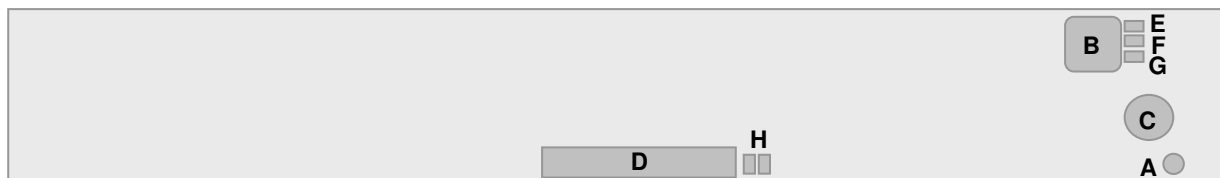

Figure 1: Connectors (back view)
The MCP is provided with a universal supply adapter that accepts a voltage of 100 to 240Vac (50/60Hz). Supply adapter and USB cable are provided with the MCP, you don't need further hardware to operate. Sockets for connections are on the back of panel (Figure 1). Beyond to the supply and USB connectors the MCP737PRO have some further sockets, they are provided to allow system expandability. A DIN 5 pole socket "C" is used to link auxiliary CPflight modules (MIP737 board, Radios etc). Close to USB socket, there is a small 6-pole connector ready for external backlight control, external A/T disengage pushbutton and external TO/GA pushbutton. The 6-pole connector is intended as 3 x 2 pole each pair of pole support one of the functions as indicated in the below connector list items E, F and G.
- Connect the USB cable to the MCP737PRO USB connector (Figure 1 “B”) and the other side to a free USB port of your computer...
- Connect the DC power adapter to the MCP737PRO (Figure 1 “A”) and plug the adapter to a main supply socket. The computer has to be switched on when you connect the MCP for the first time...
MCP737PRO comes provided with wide expansion capability through the DIN 5 pole auxiliary socket (Figure1 “C”). This allows you to connect and interface CPflight plug&play expansion modules (like radio panels and MIP737 expansion board). For further information about modules and expansion boards refer to CPflight website.
WARNING! The use of auxiliary connector (Figure1 D, E, F, G) is intended for expertise users. To use these auxiliary functions it is necessary to weld wires, to connect external switches/pushbuttons etc. Do not connect anything coming from any external power source or different by the following indications; warranty does not cover damages due to incorrect wiring of any external device.
EXTERNAL A/T DISENGAGE (Figure1 E)
EXTERNAL TO/GA (Figure1 F)
EXTERNAL BACKLIGHT CONTROL (Figure1 G)
34 POLE CONNECTOR (Figure1 D)